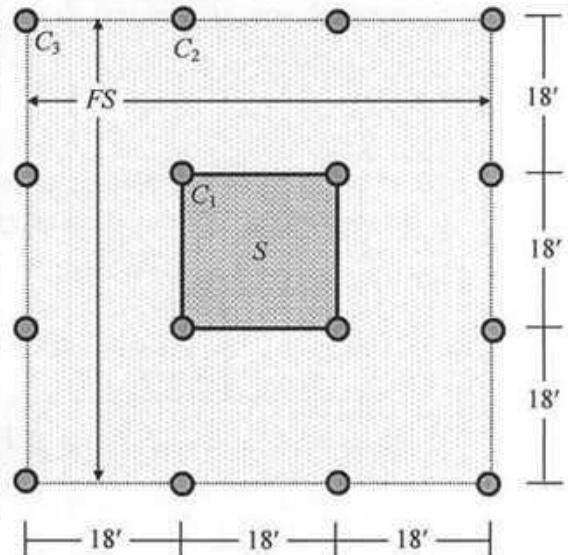

Fig. 1
1. The floor plan in Fig. 1 includes a RC flat slab *FS* supported on 18"-diameter columns, with 5" thick brick walls along all column lines. Floor loads also include working FF = 25 psf, RW = 50 psf.
2. Fig. 1 shows a floor plan consisting of the RC slab *S*, supported on 12" × 15" beams and 18"-diameter columns, with 5" thick brick walls along all column lines.
3. Fig. 1 shows the floor plan of a 6-storied RC structure, consisting of 5" thick slab *S* (supported on 12" × 15" beams), 6" thick flat-slab *FS* and 5" thick partition walls along all column lines.
4. For the floor plan shown in Fig. 1 and described in Question 3, use the USD to